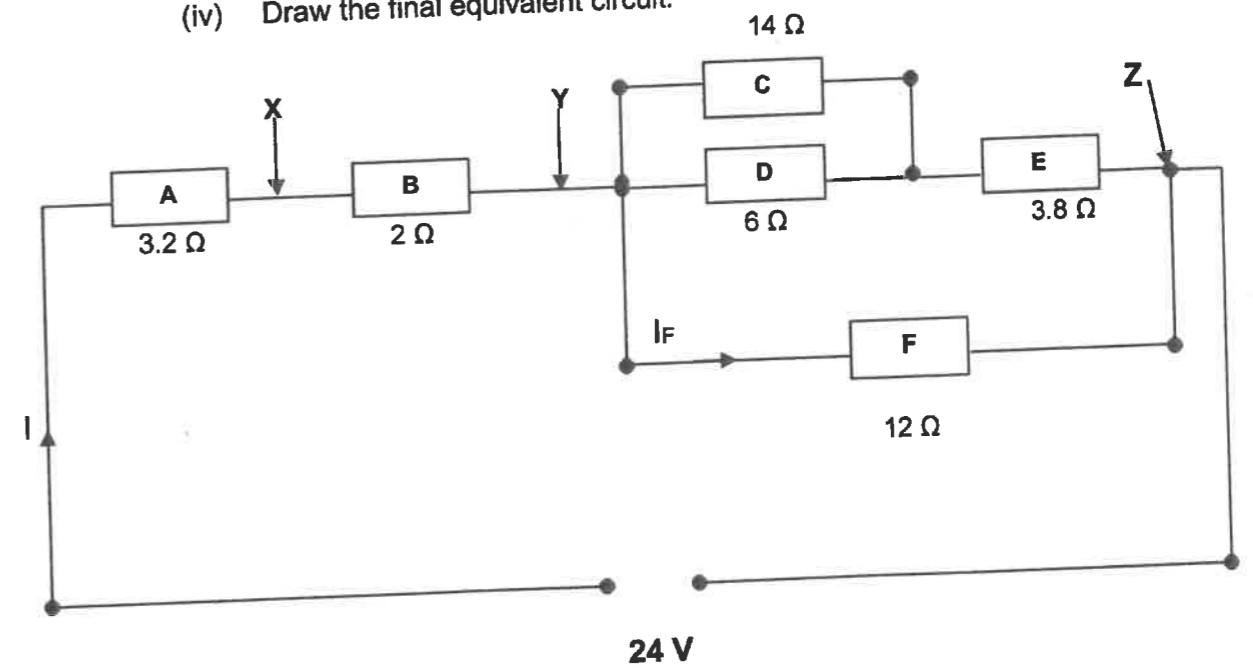

Figure 1
- b) Refer to Figure 1 and calculate: